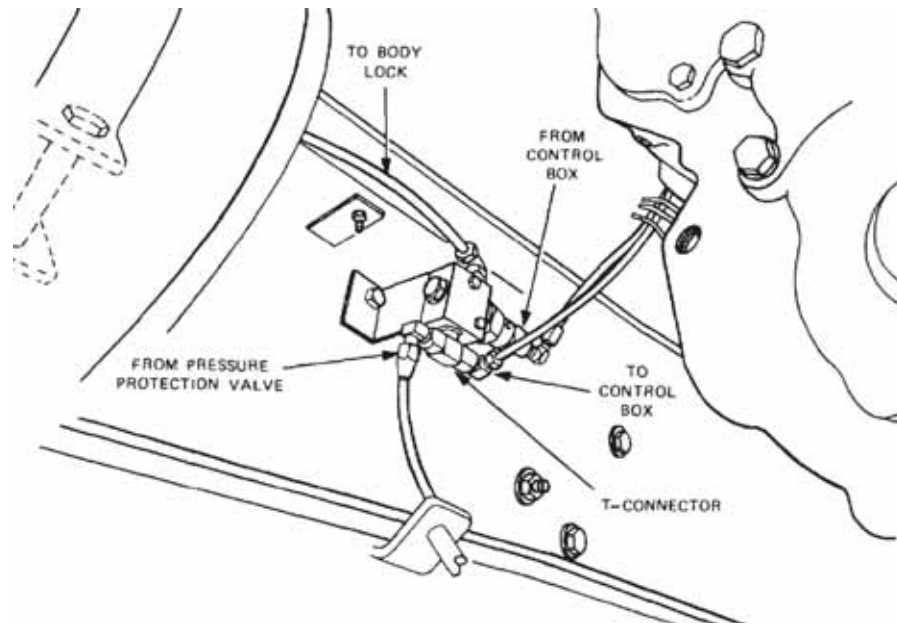

Figure 14 Poppet Valve Removal
45. Removal. Remove the poppet valve as follows (Figure 14):
46. Installation. Install the poppet valve as follows (Figure 14):